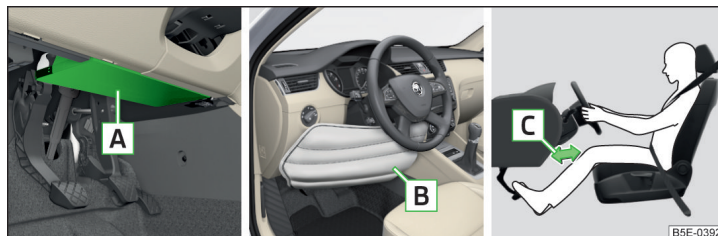

Fig. 10 Installation of the airbag / Gas-filled Airbag / Safe distance between the legs and the instrument panel
The driver's knee airbag **A** is located in the lower part of the dash panel below the steering column » Fig. 10.
- Adjust the driver's seat in a forward/back direction so that there is a gap of at least 10 cm between the legs **[C]** and the instrument panel in the vicinity of the knee airbag » **Fig. 10**. If it is not possible to meet this requirement due to your body size, visit a specialist garage.